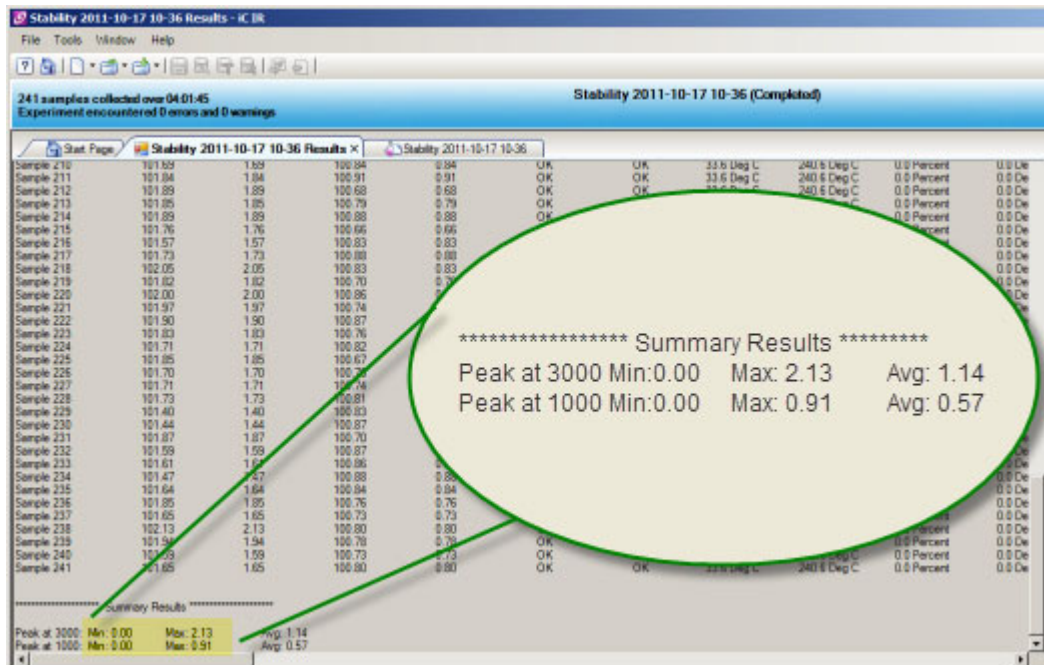

Figure 3-36 Stability test result summary in iC IR
7. Wait for the test to complete. Then, values appear in the 'Stability Test Results' tab under \*\*\*\*\*Summary Results\*\*\*\*\* (Figure 3-36). Pass criteria is **plus/minus 3%T**.